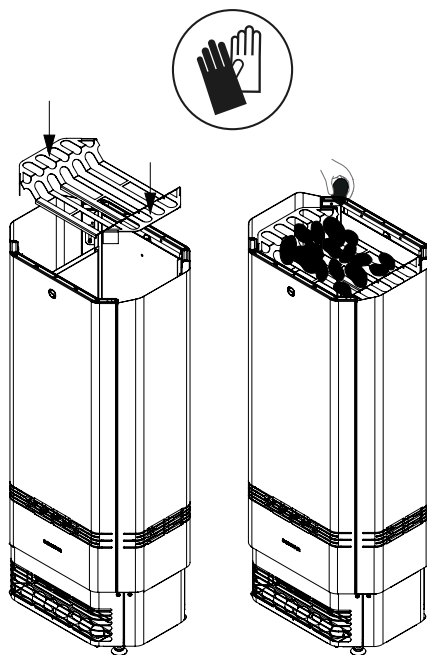

Figure 19
4. Place back the stone basket top grille and add 1-2 layers of stones so that air can pass through the top grille and stones freely (Figure 19 & 20).